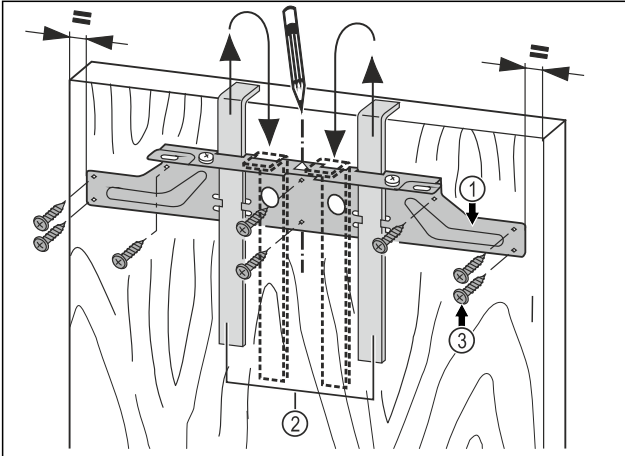

Fig. 45
- Hang the fastening bar Fig. 45 (1) with the mounting aids on the inside of the unit door Fig. 45 (2).
- Align the fastening bar Fig. 45 (1) in the centre of the door.*
- Tighten the mounting bar Fig. 45 (1) with at least 6 screws Fig. 45 (3).
- Screw the mounting bar Fig. 45 (1) to the edge with 4 screws Fig. 45 (3).
- Pull the assembly devices Fig. 45 (2) upwards and push them, at an angle, into the receiving openings.